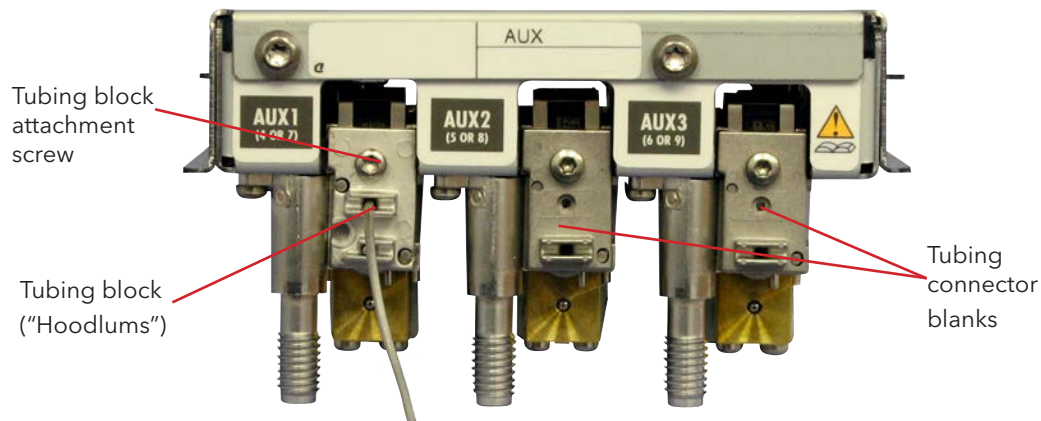

Figure 3.28 Aux EPC Module Tubing Connector Blanks
1. Remove the three tubing connector blanks (Figure 3.28) from the Aux EPC module to expose the O-rings and restrictors.
3. Attach the tubing blocks (hoodlum block assembly with integrated 1/16" stainless steel lines) to each of the three manifolds and tighten each screw (see Figure 3.28).